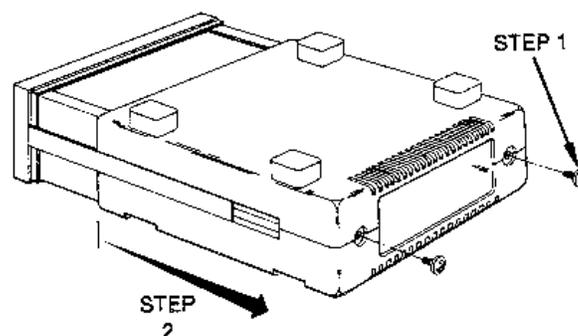

Figure 2-1. Top and Bottom Cover Removal
To verify the line voltage (or change the fuse), the operator must first remove the top and bottom covers. Remove the top and bottom using the following steps and figure 2-1.
5. Secure covers to the chassis assembly using two screws as shown in figure 2-1.